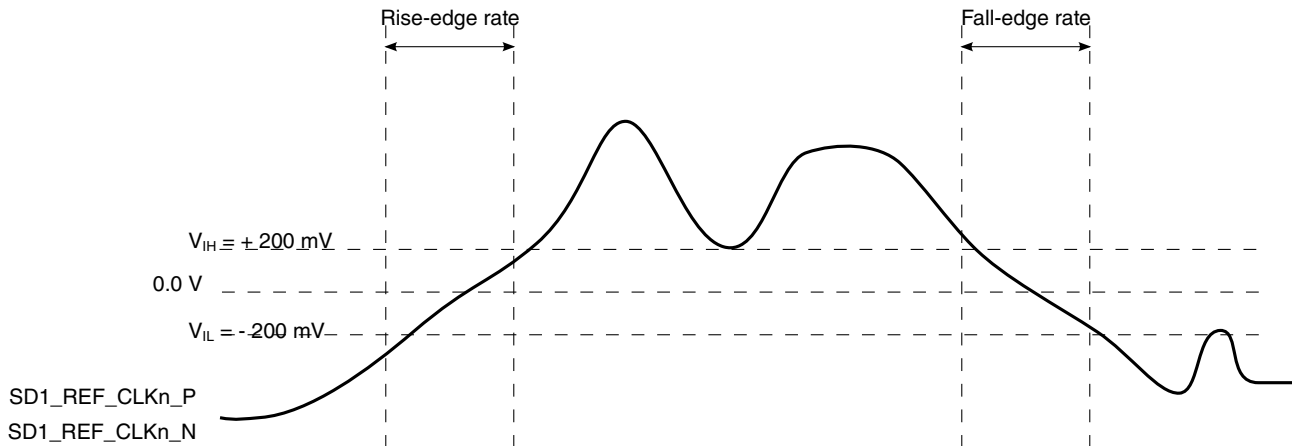

Figure 79. Differential measurement points for rise and fall time
The differential waveform is constructed by subtracting the inverting signal (SD_TXn_N, for example) from the non-inverting signal (SD_TXn_P, for example) within a differential pair. There is only one signal trace curve in a differential waveform. The voltage represented in the differential waveform is not referenced to ground. See Figure 79 as an example for differential waveform.
- Measured from -200 mV to +200 mV on the differential waveform (derived from SD1_REF_CLK n _P minus SD1_REF_CLK n _N). The signal must be monotonic through the measurement region for rise and fall time. The 400 mV measurement window is centered on the differential zero crossing. See Figure 79.